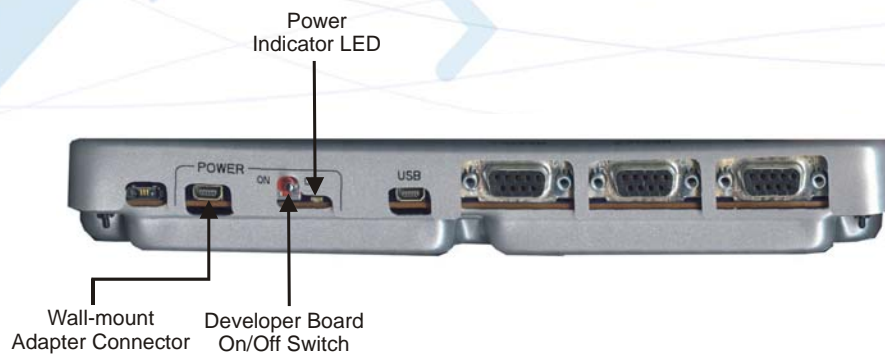

Figure 2-5: Developer Board Power Switch and Adapter Connector (Rear)
Caution: Before connecting the power supply, make sure that the Developer Board On/Off switch (located in the rear of the board, as shown in Figure 2-5) is in the **OFF** position.
Caution: When using the Wall adapter, make sure to insert it into the Power Adapter Connector (J210) and not to the Mini-AB USB connector (J380), as shown in Figure 2-5.
1. Connect the supplied Wall adapter to the Wall Adapter Connector (J230) (Figure 2-5).
- Connect (Figure 2-5) either the supplied RS232 cable with a male D-type connector to RS232-1 connector (J300), or to the RS232-2 connector (J330) for data logging.
1. Turn on the Developer Board power by switching the power On/Off switch (S200) to **ON** (Figure 2-5).